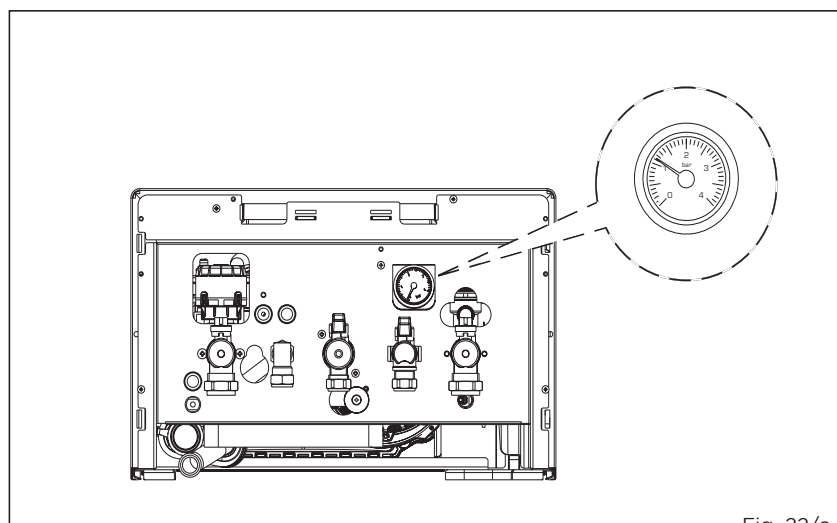

Fig. 22/a
- LOW WATER PRESSURE ERROR ALARM 02 (fig. 22/a)
Increase the system pressure to between 1.0 and 1.2 bar (use pressure gauge, fig 22/a) using the external filling loop. The boiler will automatically resume operating.